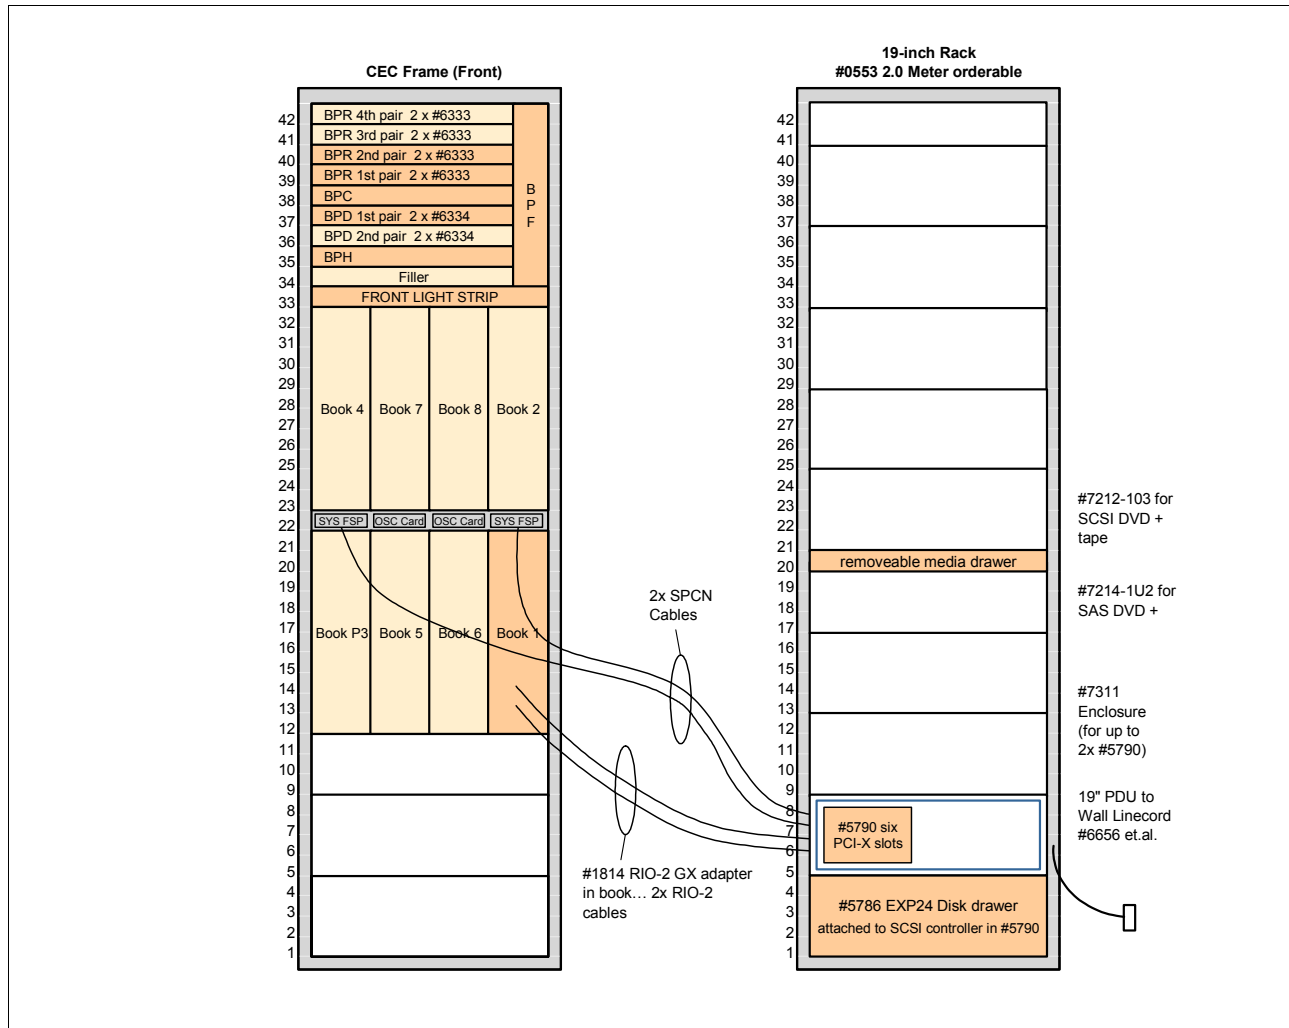

Figure 3-33 Example 595 system (CEC) frame with only a 19-inch rack containing I/O enclosure used by IBM i
- ▶ The system (CEC) frame power connects to the corresponding power connection in the top of the #6954 powered expansion racks. An IBM i configuration could include only 19-inch racks. Figure 3-33 on page 150 depicts a simplified version of that configuration.
Figure 3-33 shows a 9119-FHA system frame with only a 19-inch rack. It depicts a simplified configuration with IBM i as the primary operating system.
Notes about Figure 3-33 include:
Additionally, Figure 3-33 shows: